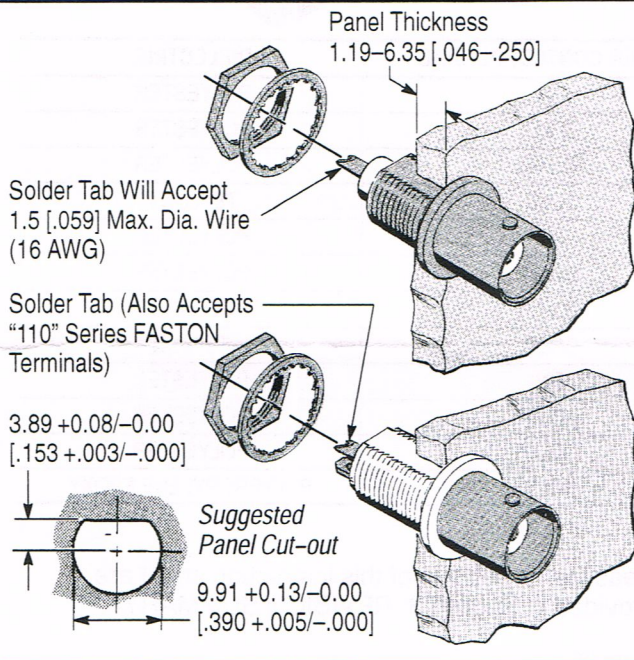

Figure 2
1. First determine mounting requirements. Panel cut-out dimensions are shown in Figure 2.